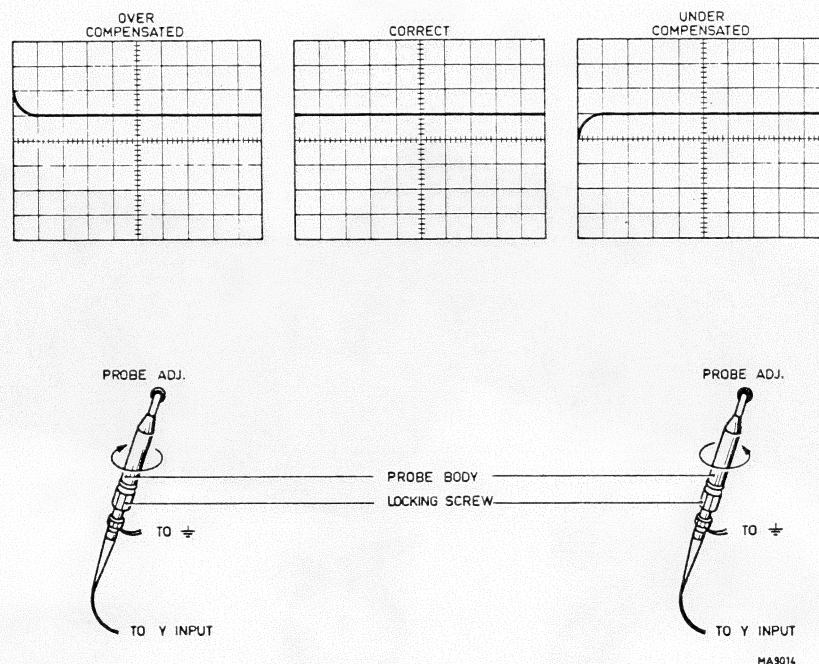

Fig. 3.15. Attenuator probe compensation
3.5.1.2 Adjustment (Fig. 3.15)